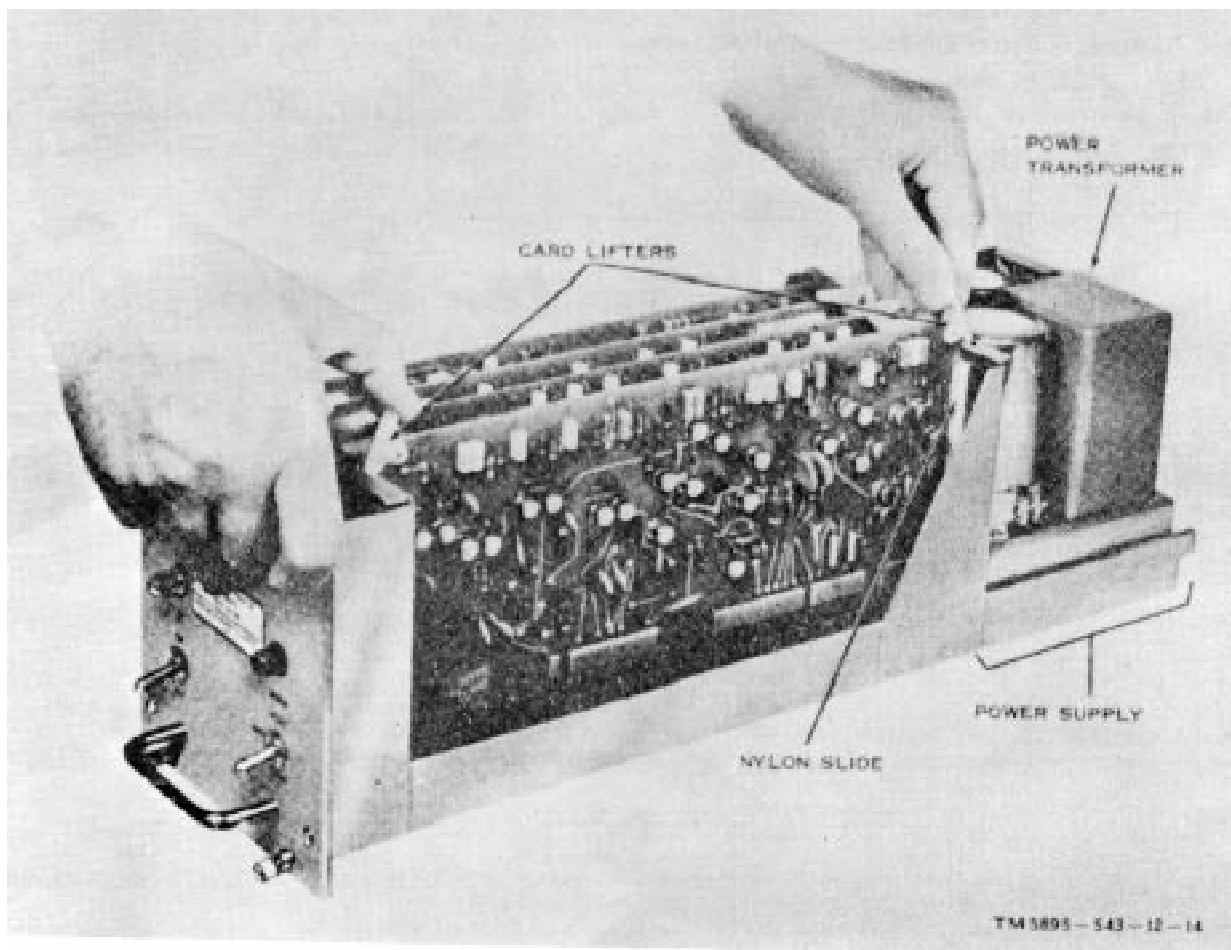
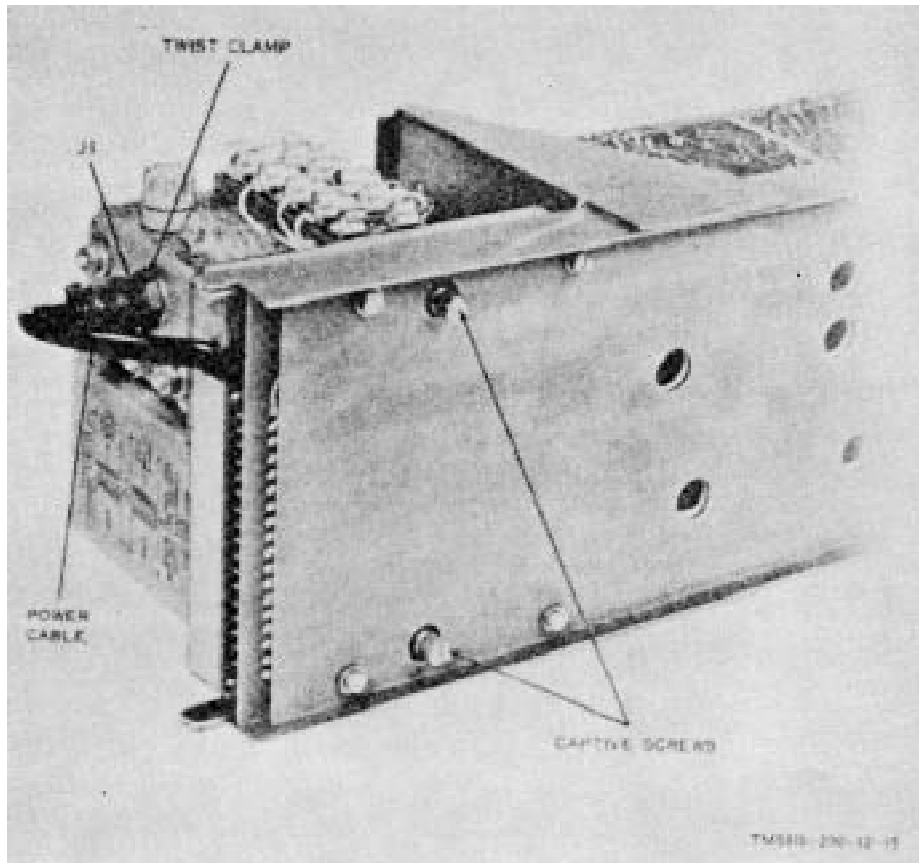

Figure 4-3. Black logic module, showing method of removing black cards.
Figure 4-4. Bottom rear view of black logic module.
All fuses are on the power supply (fig. 4-3) mounted at the rear of the black logic module. Remove and replace fuses as follows:
(2) Grasp the card lifters (fig. 4-3) and pull up to remove the black cards.
(figs. 4-3 and 4-4)
(1) Remove the black logic module (para 4-15a).
(2) Disconnect the power cable at connector J1 (fig. 4-4) by twisting the clamp of J1 about one-half turn counterclockwise (left) and pulling connector J1 from the receptacle.
(3) Place the black logic module on its right side (fuses should be topside).
(4) Loosen the two captive screws (on the bottom of the black logic module) that hold the power supply in place.
(5) Remove the power supply from the black logic module.
*b. Replacement.* Reverse the procedures in (1) through (5) above to replace the power supply (fig. 4-3).